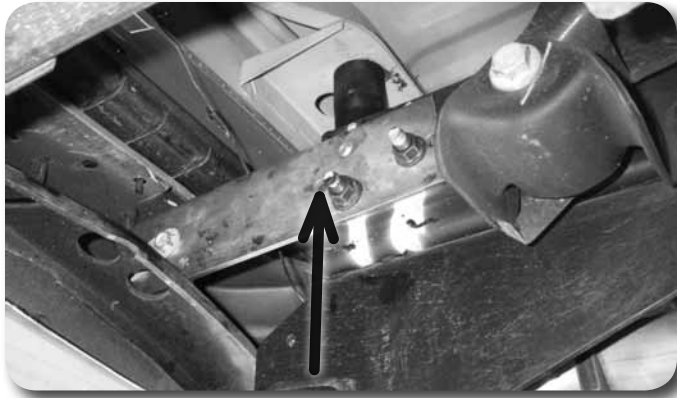

Figure 18
98. Mount the bumper to the vehicle using the factory hardware. **Figure 18**. Do not tighten.